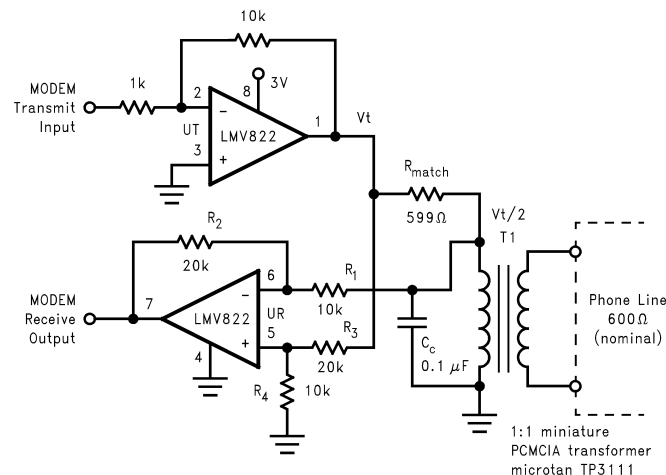

Figure 39. Telephone-Line Transceiver for a PCMCIA Modem Card
The telephone-line transceiver of Figure 39 provides a full-duplexed connection through a PCMCIA, miniature transformer. The differential configuration of receiver portion (UR), cancels reception from the transmitter portion (UT). Note that the input signals for the differential configuration of UR, are the transmit voltage (V_T) and $V_T/2$. This is because R_{match} is chosen to match the coupled telephone-line impedance; therefore dividing V_T by two (assuming $R_1 \gg R_{match}$).